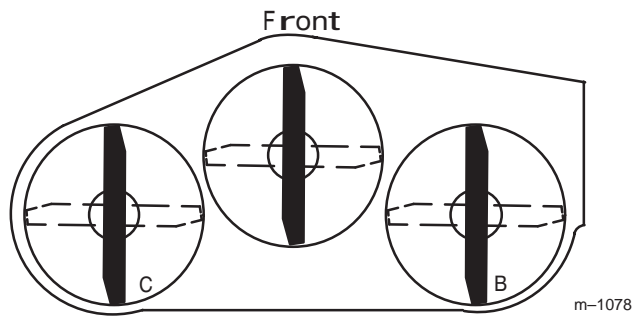
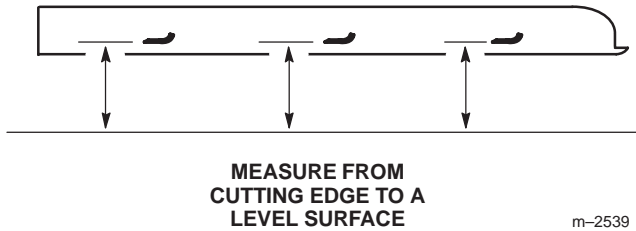

Figure 58
Figure 59
- Position the **right** blade front-to-rear (Fig. 58).
- Measure the right blade at the **B** location (Fig. 58), from a level surface to the cutting edge of the blade tip (Fig. 59).
- Position the **left** blade front-to-rear (Fig. 58).
- Measure the left blade at the **C** location (Fig. 58), from a level surface to the cutting edge of the blade tip (Fig. 59).